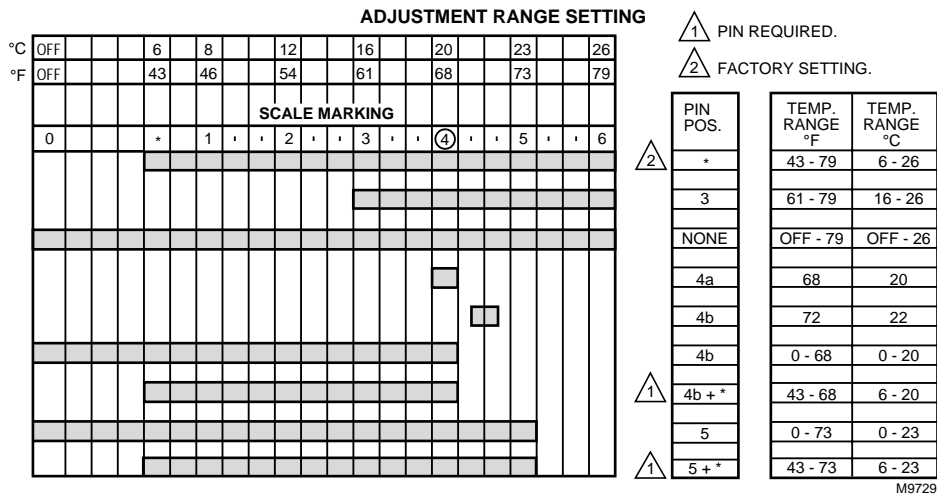

Fig. 10. T5086A,C available temperature ranges.
1. Determine temperature range limits (see Fig. 10).